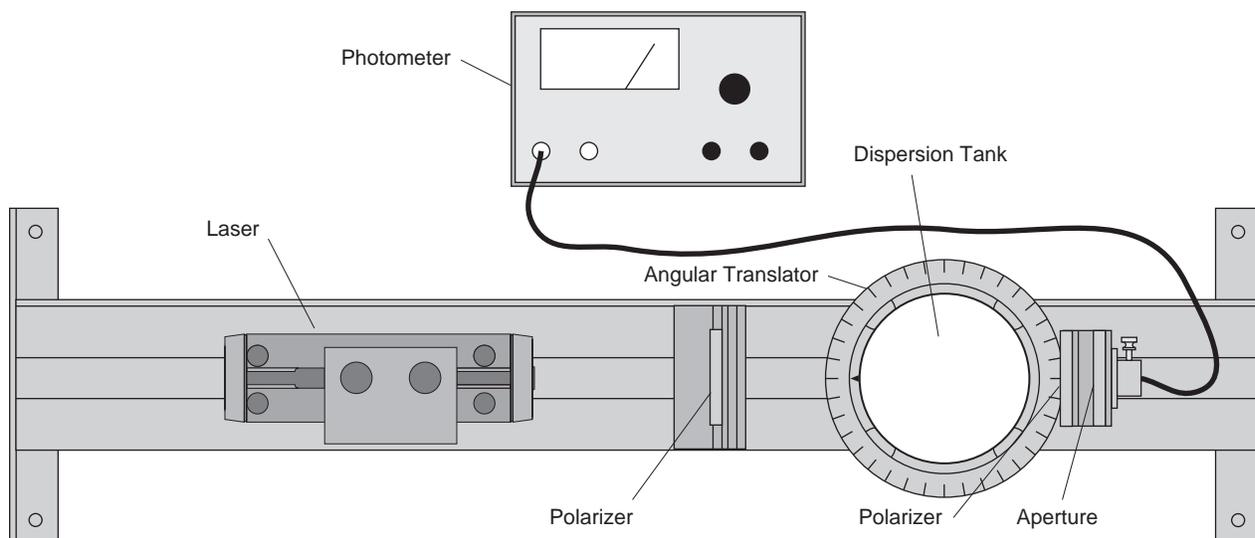

Figure 11.1: Experiment Setup
- ④ Attach a second polarizer to the front surface of the analyzer holder on the moveable arm of the angular translator. Put a photometer aperture on the rear surface of the analyzer holder. (See Figure 11.1)
- ⑤ With the fiber optic probe attached behind the photometer aperture, use the potometer to measure the transmitted beam's intensity as the second polarizer is rotated.
- ⑥ From the intensity results, determine the direction of polarization of the transmitted beam. Compare to the original polarization direction.
- ⑦ Repeat the procedure for differing concentration is sufficiently high to considerably rotate the polarization direction. However, the photometer gives much more useful and quantitative results.)